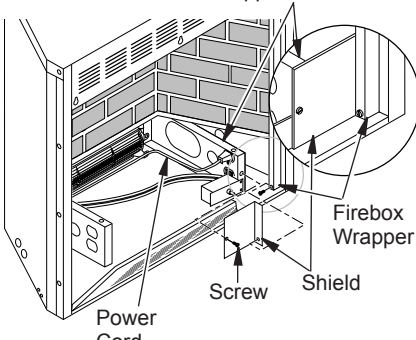

Figure 15 - Installing Shield to Support Bracket
5. Install shield to end of right support bracket and behind the firebox wrapper with 2 screws provided (see Figure 15, page 12).